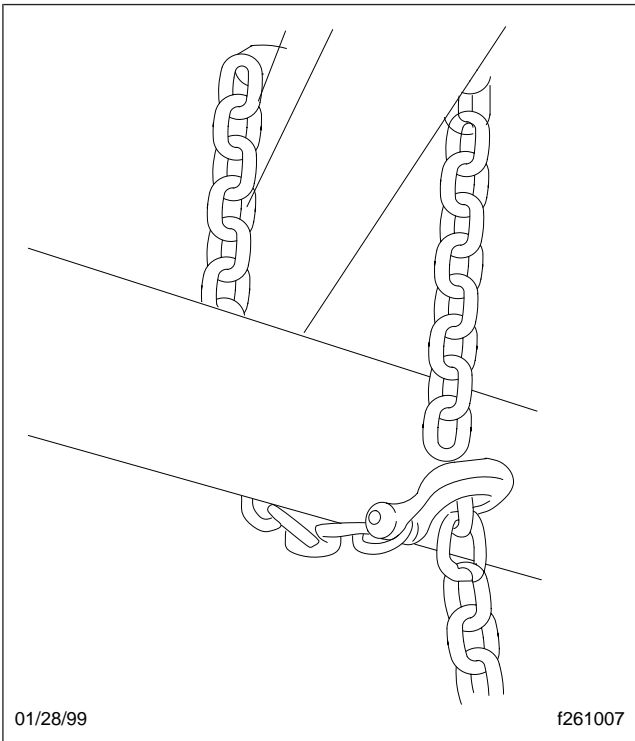

Fig. 4, Supporting the Driveshaft
- 3.4 Support the disconnected driveshaft and chain it out of the way. See Fig. 4.